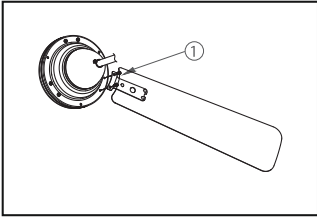

Figure 1
Locate the Motor Assembly ① and remove the M6 screws from the edge of the motor body. Locate blade(s) and attach blade(s) to motor assembly body using the M6 screw back into the appropriate holes. See Figure 1